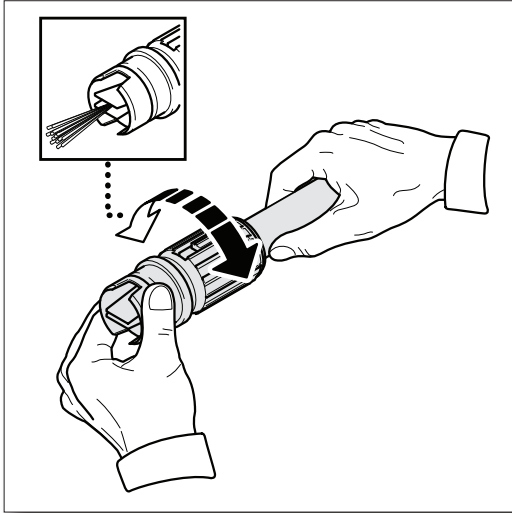

Fig. 22
- Take off the adjustable lance. Rotate the nozzle on the adjustable lance to the narrow stream setting which opens up the fan blades. **(Fig. 22)**.